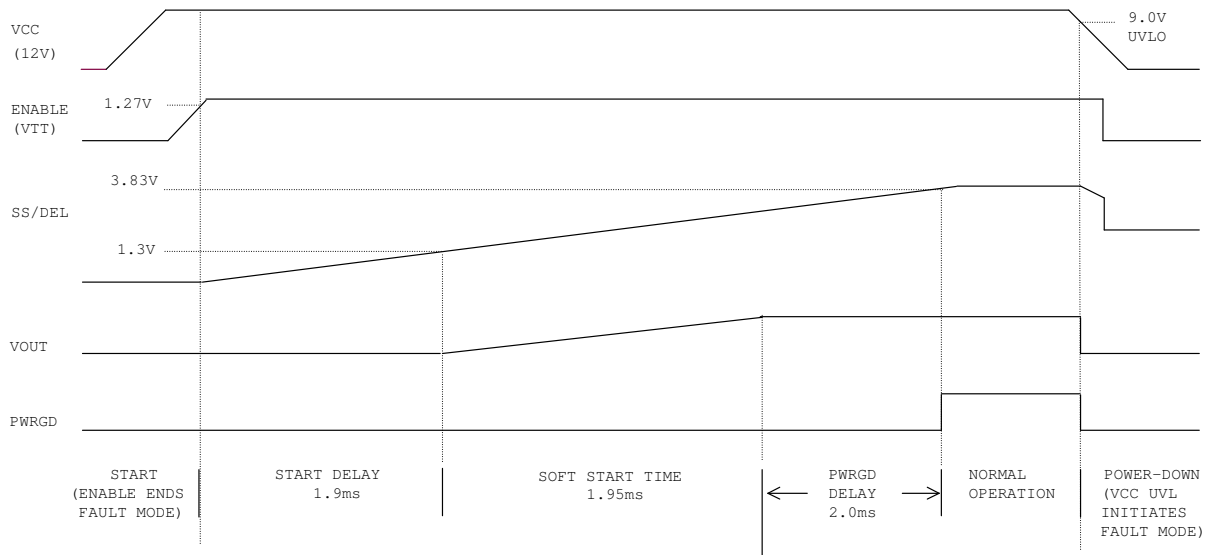

Figure 10 – Start-up Waveforms
The IR3082A has a programmable soft-start function to limit the surge current during the converter start-up. A capacitor connected between the SS/DEL and LGND pins controls soft start as well as over-current protection delay and hiccup mode timing. A charge current of 55 μ A and discharge current of 5 μ A control the up slope and down slope of the voltage at the SS/DEL pin respectively. Soft start-up waveforms are shown in Figure 10.
The SS/DEL pin voltage controls the slew rate of the converter output voltage, as shown in Figure 10. After the ENABLE pin voltage rises above 1.27V, there is a soft-start delay time tSSDEL, after which the error amplifier output is released to allow the soft start. The soft start time tSS represents the time during which the output voltage rises from zero to Vo. tSS can be programmed by an external capacitor, which is determined by Equation (1).